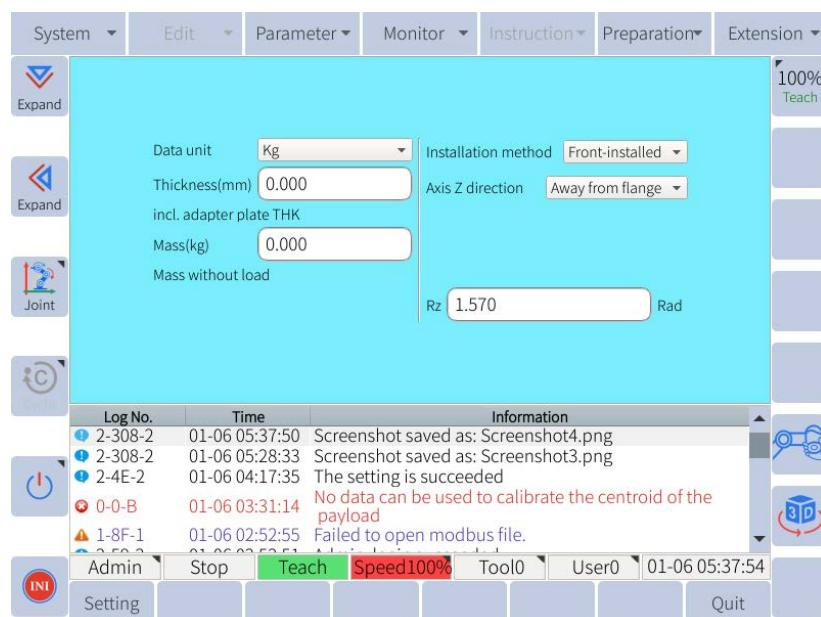

Figure 6-29: Sensor parameter settings
- Select "Kg" or "N" from the drop-down list of Data unit, as shown in **Figure 6-29**. Note that the unit selected must be same as that of the sensor. For instance, the original data unit of KUNWEI sensor is Kg. The user must select "Kg" if a KUNWEI sensor is used.
- Users can click Extension->Force control->FC Parm to set up the parameters in the force control gain display. Users can enter a random number between 0 and 1, as required, and click "Settings", as shown in Figure 6-29. Please note that the higher the force tracking value, the heavier the payload. This will cause an obvious jitter of the robot.